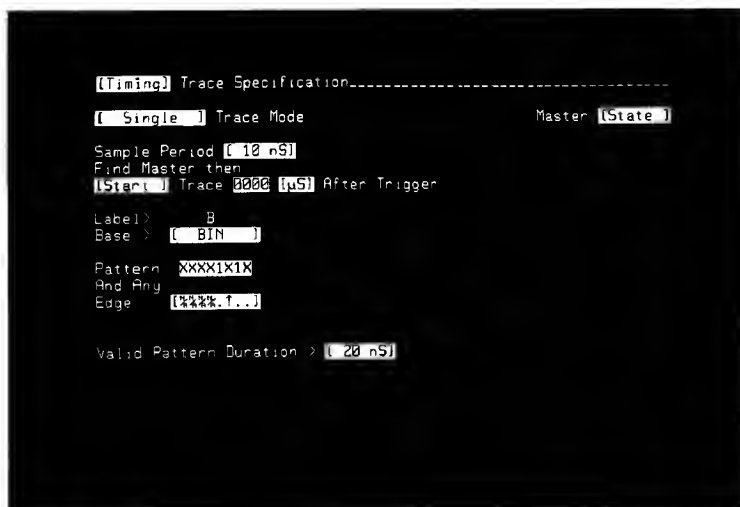

Figure 3-31. Timing Trace Specification For Combined State/Timing Measurements
11. Press the TRACE key. See figure 3-31.